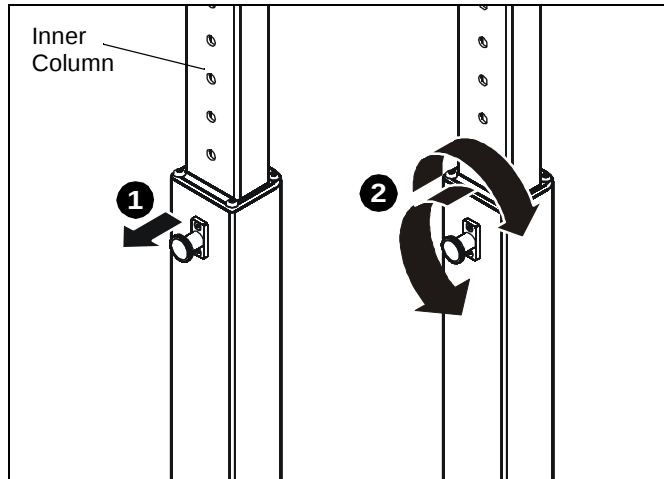

Figure 6
1. Adjust the stand or cart to the desired height by slightly lifting the inner column, pulling out knob on the center post and turning 90° in either direction to disengage the locking mechanism. (See Figure 6)
2. Raise or lower the center post, then turn the knob 90° either direction to engage the knob and lock the stand at desired height. (See Figure 6)